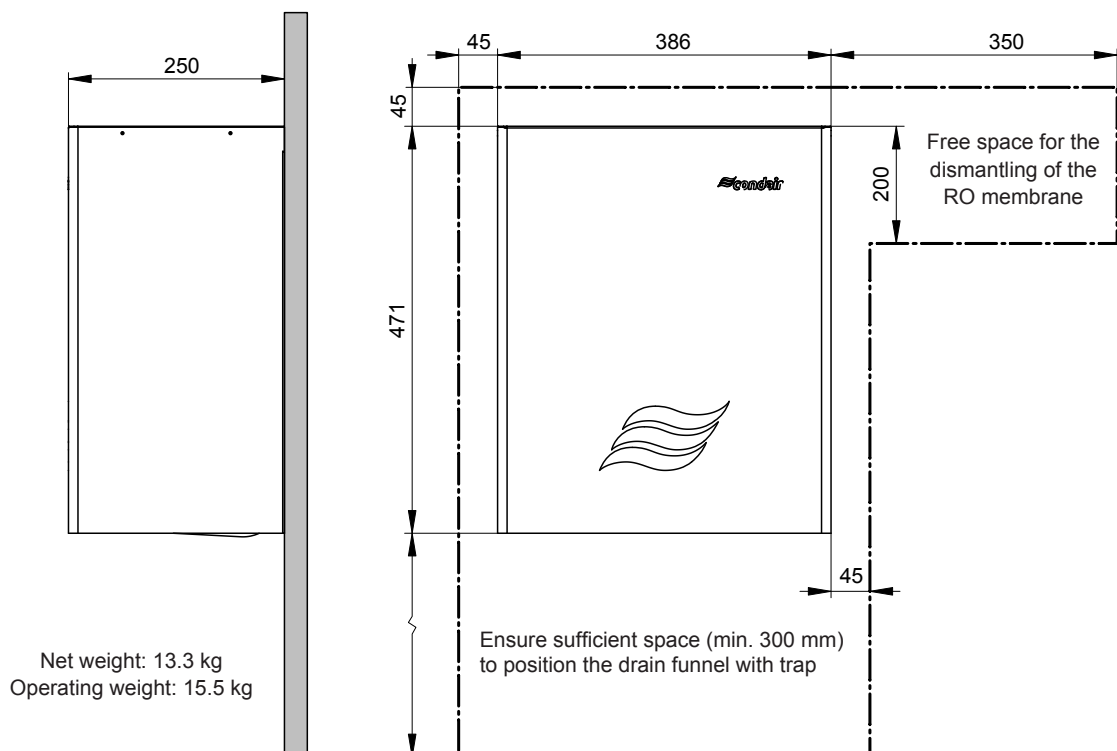
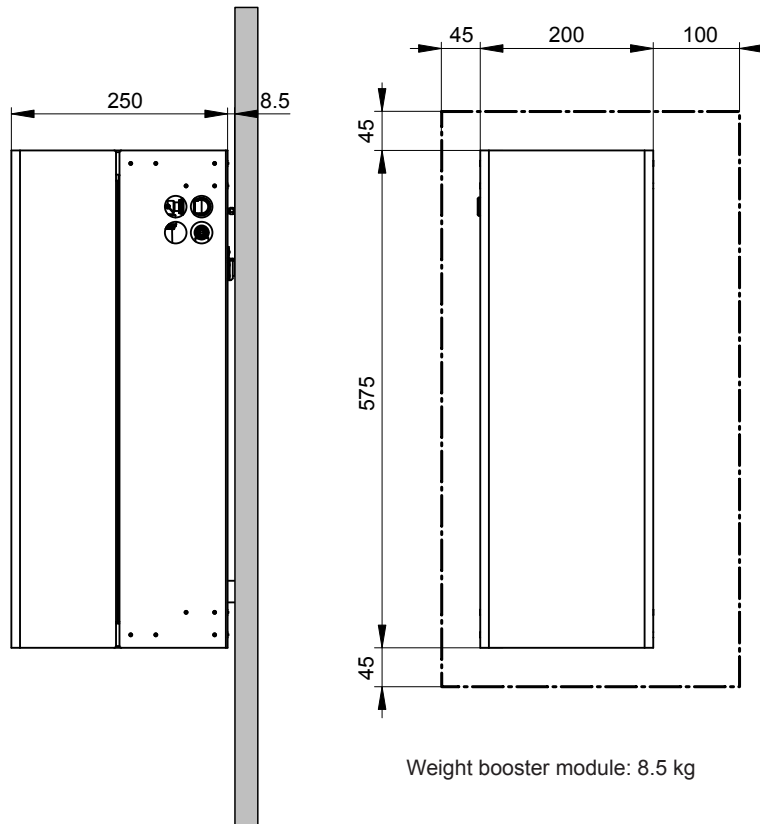
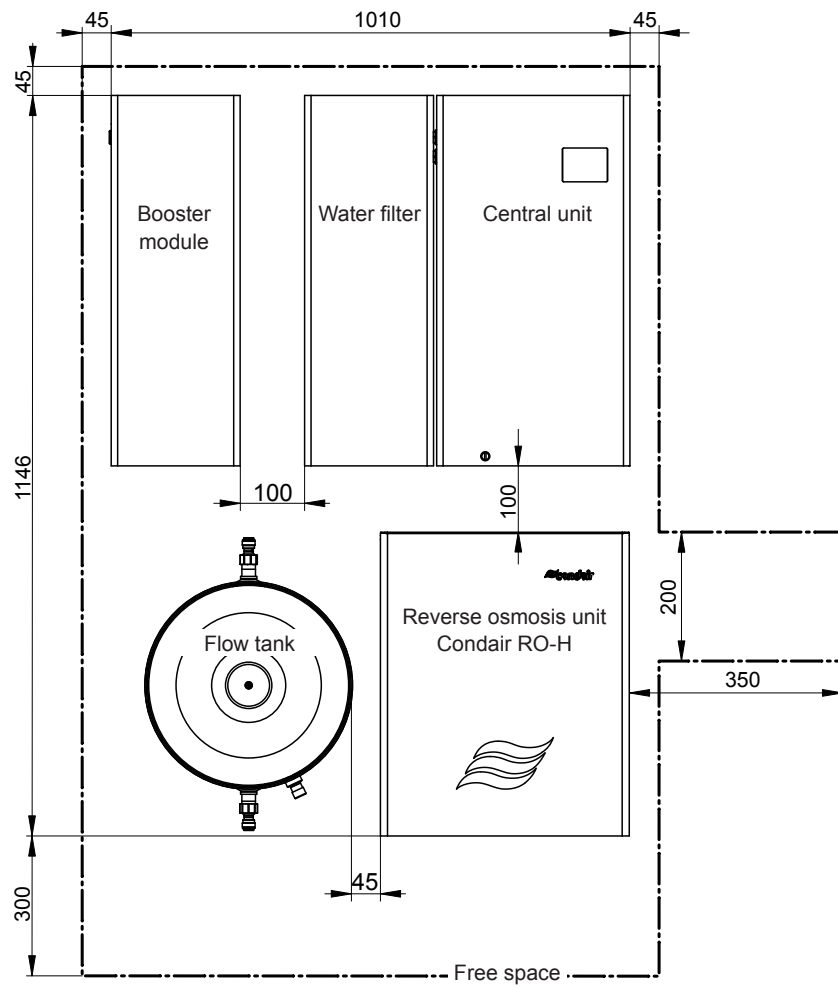

Fig. 9: Dimensions RO-H (dimensions in mm)
Fig. 11: Dimensions booster module (dimensions in mm)
Fig. 14: Placement example 3 (dimensions in mm)
- There must be a sufficiently large free wall space in the room for the installation of the RO-H reverse osmosis unit, the flow tank and the booster module (see Fig. 9 to Fig. 14).
Important: The wall on which the components of the reverse osmosis system are mounted must have sufficient load-bearing capacity (see weight information in Fig. 9 to Fig. 11) and be suitable for the attachment.